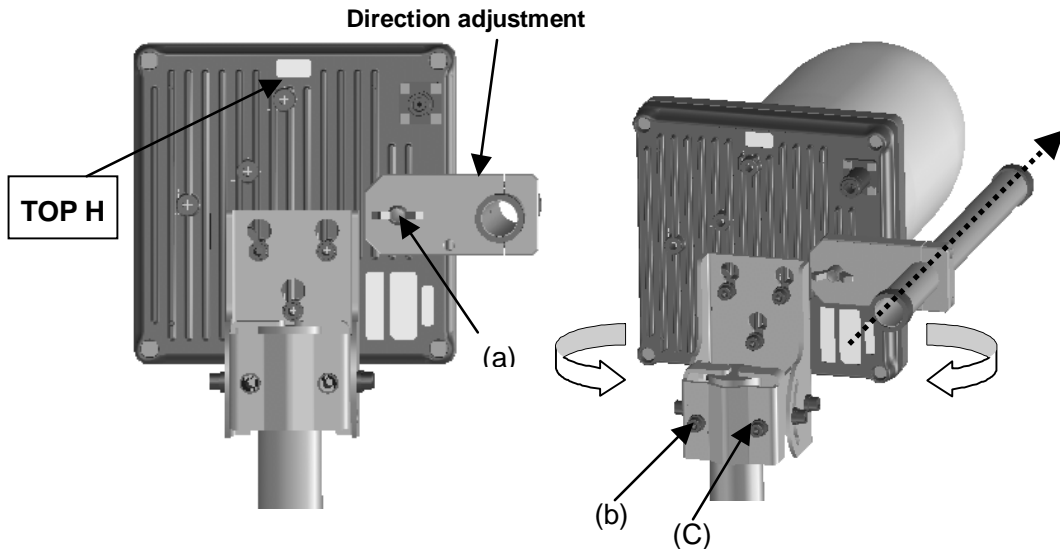

Figure 5-14 Attaching the Direction Adjustment tool Figure 5-15 Adjusting the Horizontal Direction
- As shown in Figure 5-14, use the wing bolt (a) to attach the Antenna direction adjustment tool.